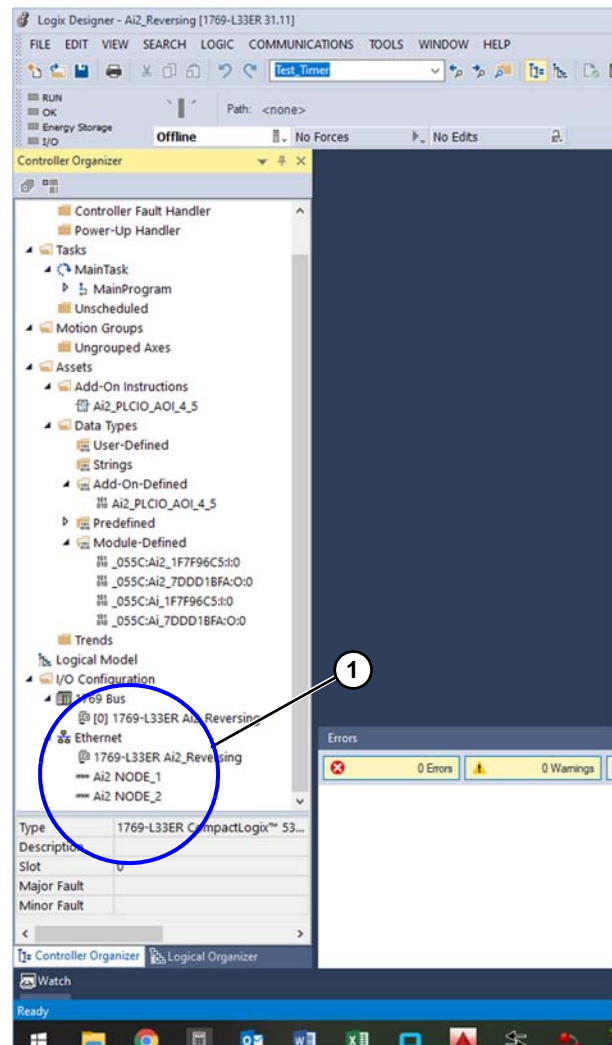

Figure 24
- Add modules to network (**Figure 24, item 1**)